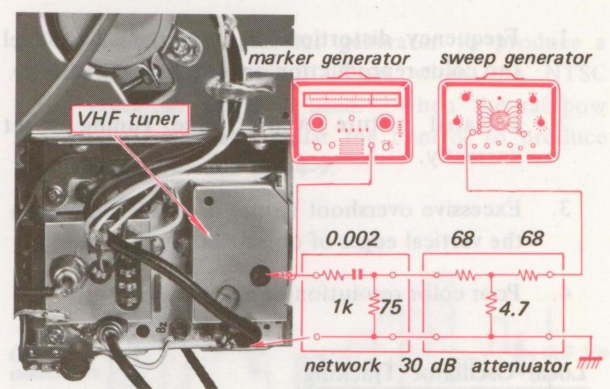

Fig. 4-13. Sweep/marker connections for VIF adjustment
6. Connect a sweep generator to the test point of the tuner through an attenuator and the network as shown in Fig. 4-13.
- 8. Loosely couple the output of the marker generator to the input of the VHF tuner and network as shown in Fig. 4-13.